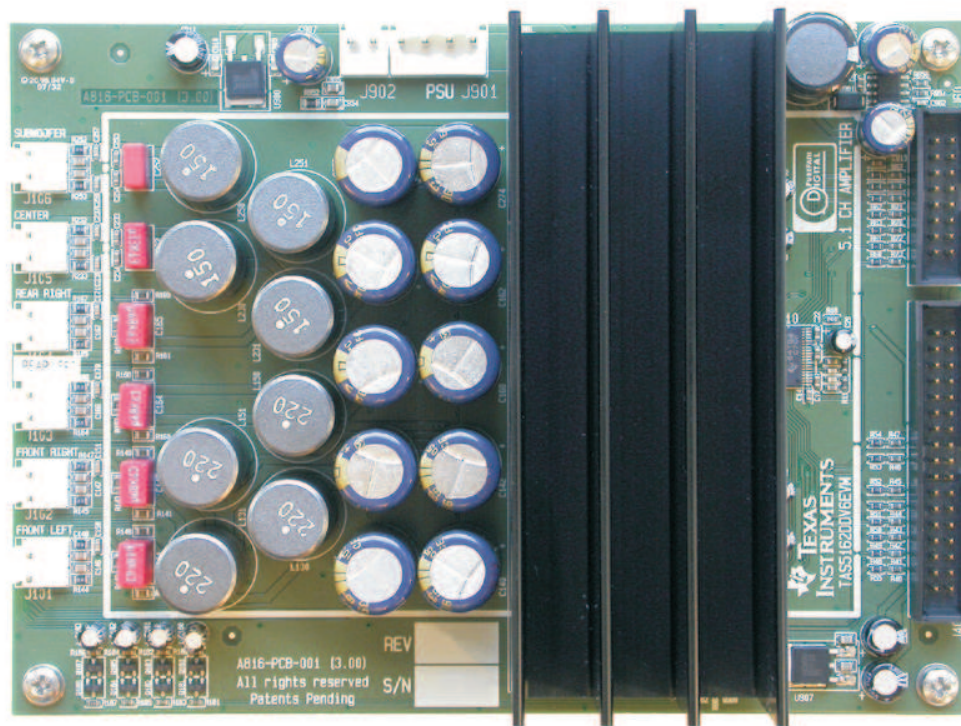

Figure 1. TAS5162DDV6EVM Board
The TAS5162DDV6EVM PurePath Digital™ customer evaluation module (Figure 1) demonstrates the integrated circuits TAS5162DDV and TAS5086DBT from Texas Instruments (TI).